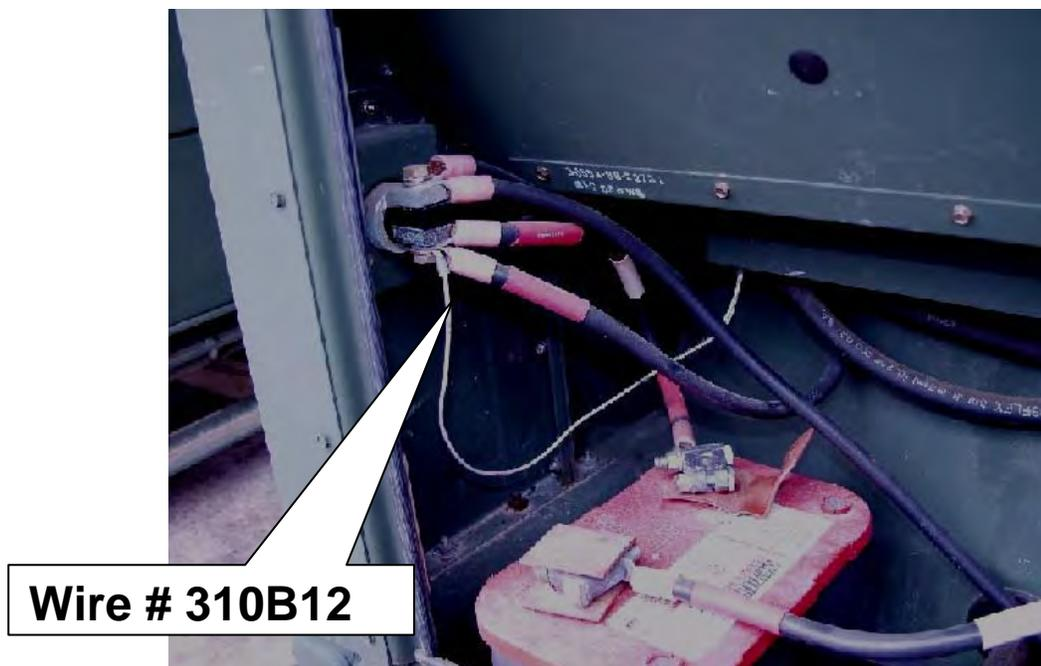

Figure 6. Modified Battery Compartment
14. Following the wire harness as much as possible, attach the 3/8 inch lug terminal of wire # 310B12 to the positive terminal of the NATO slave receptacle (SR1) as shown in figure 6. Add wire ties as necessary.